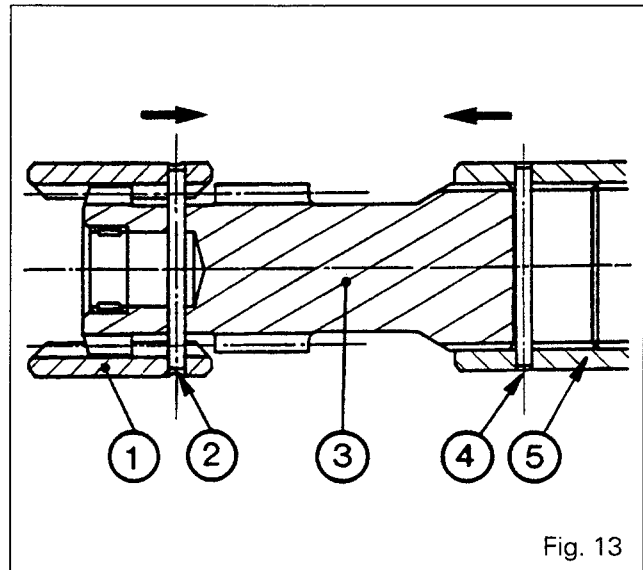
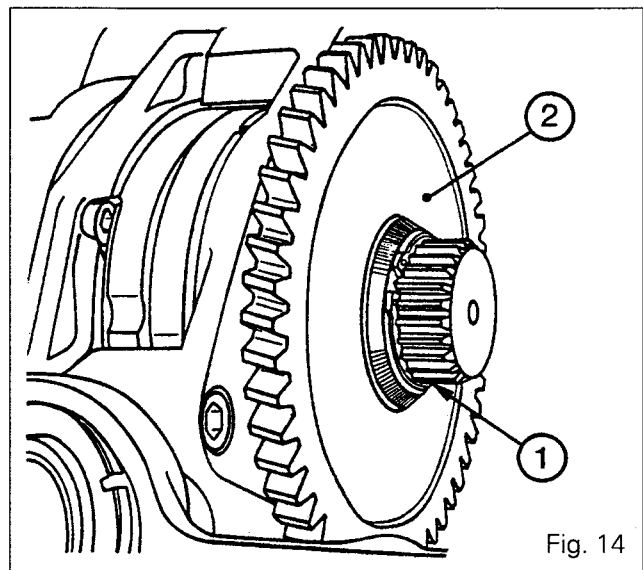

Fig. 13
Fig. 14
56. Drive out the double pins (2) and (4) from the sleeves (1) and (5). Slide the sleeves towards one another on the shaft (3) linking the drive pinion (6) and the output shaft (7) of the gearbox (Fig. 13). Remove the shaft and sleeves assembly.
If the double pins are not accessible, slide the rear sleeve forwards on the 4WD shaft. Rotate the wheel shaft so as to position the coupling sleeve (3) (Fig. 13).
57. Remove the circlip (1).
58. Remove the pinion (2) (if fitted) (Fig. 14).
60. Remove the circlip (1) and the pinion (2) (if fitted) (Fig 14).
62. Remove the screws (32), the supporting plate (35) and the shims [36].
63. Remove the bearing cup (33) and the bevel gear pinion fitted with bearing cones (30) and (31).
64. Remove the bearing cup (37). Remove the oil deflector (41).
65. Extract the bearing cones (30) and (31).